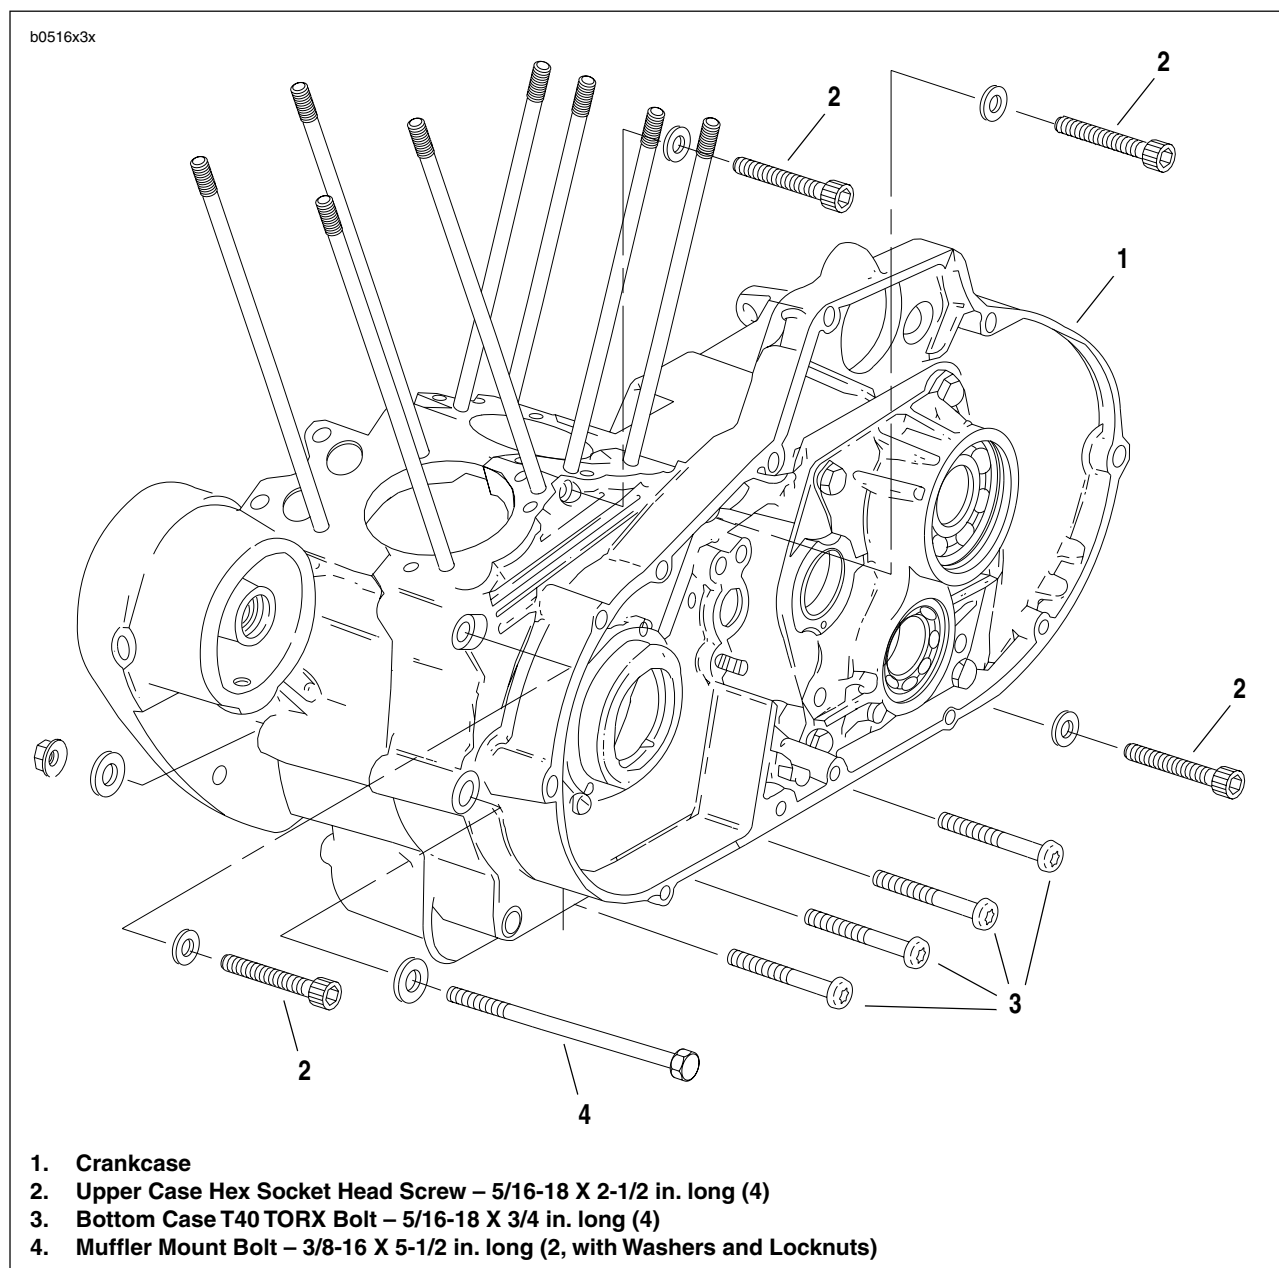

Figure 3-76. Crankcase Hardware (Typical)
8. See Figure 3-76. Remove screws and rear engine mount bolt securing crankcase halves together.